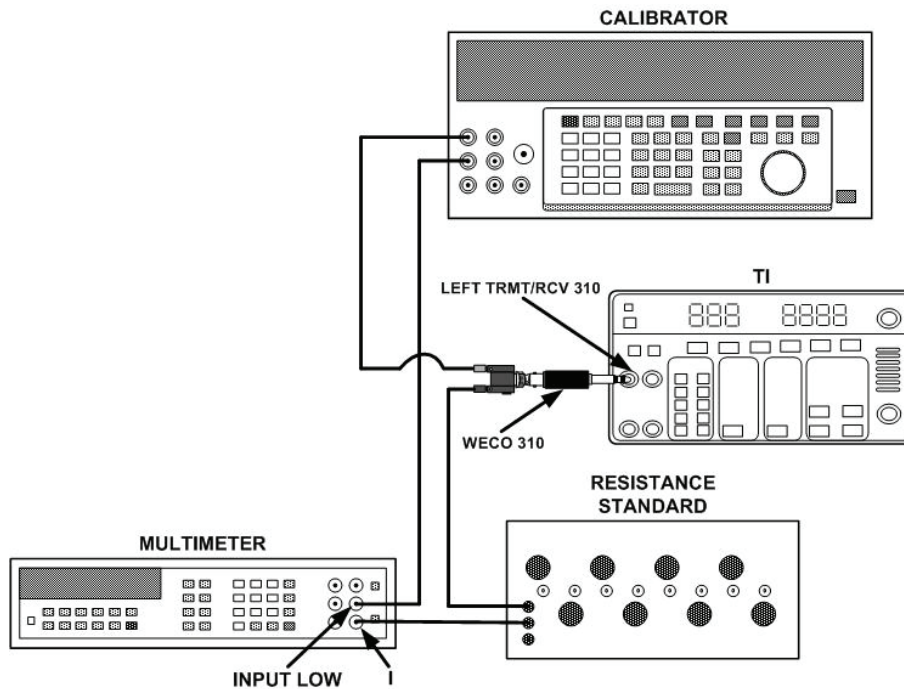

Figure 2. Hold circuit.
(1) Connect equipment as shown in figure 2.